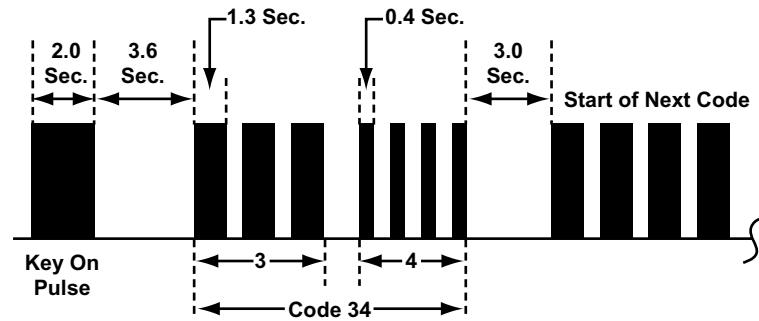

Figure 4-39 Acura ABS Code Type 04
- Type 04, see Figure 4-39 and Table 4-9 on page 34